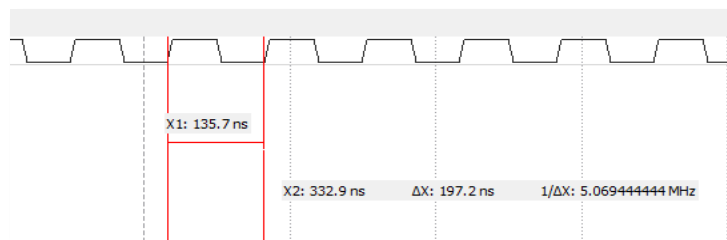

Figure 6. Zooming hot tracks in WaveForms
- iii. Use the track to record the propagation delays as shown in Figure 6